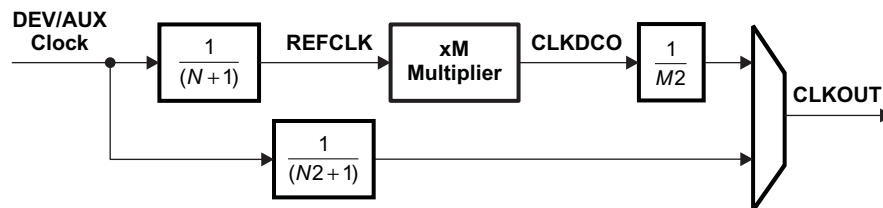
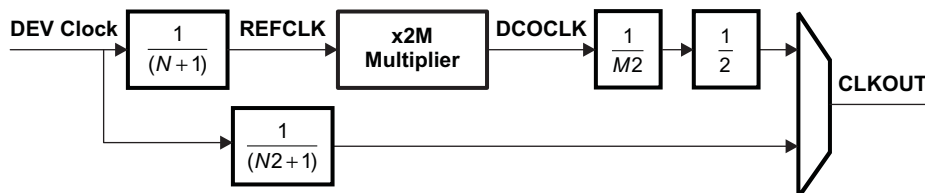

Figure 8-17. Top-Level PLL Simplified Block Diagram
Figure 8-18. PLL_ARM Simplified Block Diagram
The device contains 12 top-level PLLs, and 4 embedded PLLs (within the) that provide clocks to different parts of the system. Figure 8-17 and Figure 8-18 show simplified block diagrams of the Top-Level PLL and PLL_ARM. In addition, see the System Clocking Overview (Figure 8-6) for a high-level view of the device clock architecture including the PLL reference clock sources and connections.
(1) This parameter describes the limits on the programmable multiplier value M. The multiplication factor for the PLL_ARM is equal to $2 * M$ (also see Figure 8-18).
(2) The PLL Multiplier supports fractional values (up to 18-bits of fraction) except when the PLL Multiplier is < 20 OR > 2045.